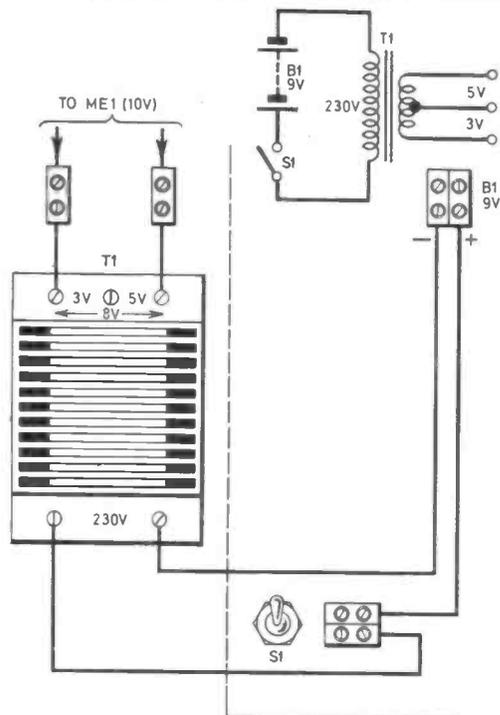

Fig. 10A.1. Wiring up details and theoretical circuit diagram for Experiment 10A.
1. Wire up the components as indicated in Fig. 10A.1. The bell transformer can be laid on the table or screwed down on the side or front panel of the Circuit Deck.